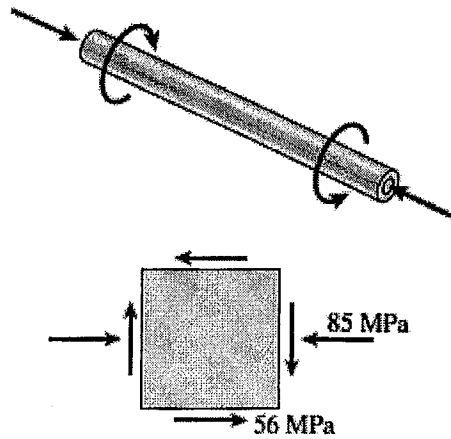

Fig.Q02
2. A propeller shaft subjected to combined torsion and axial thrust is designed to resist a shear stress of 56 MPa and a compressive stress of 85 MPa (see Fig.Q02).